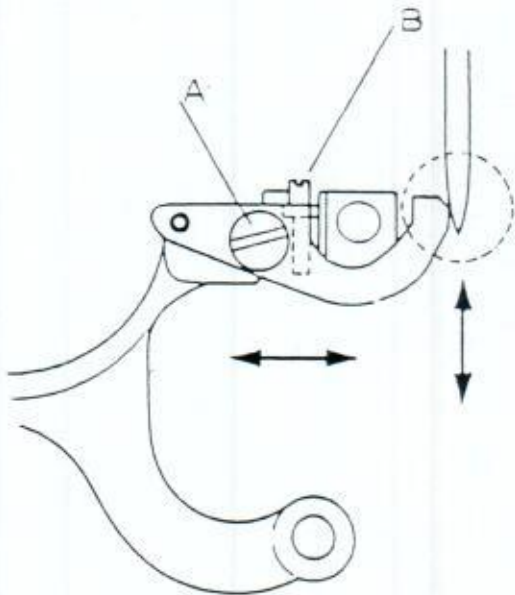

Fig 22
- (1) Loosen screw A in Fig 22.
- (2) As for the adjustment of up and down, the needle guard will go up if screw B is turned to left, and it will fall down if screw B is turned to right. Also, that the clearance between the needle and the looper point is zero, and needle can not be curved against needle guard in Fig 22.